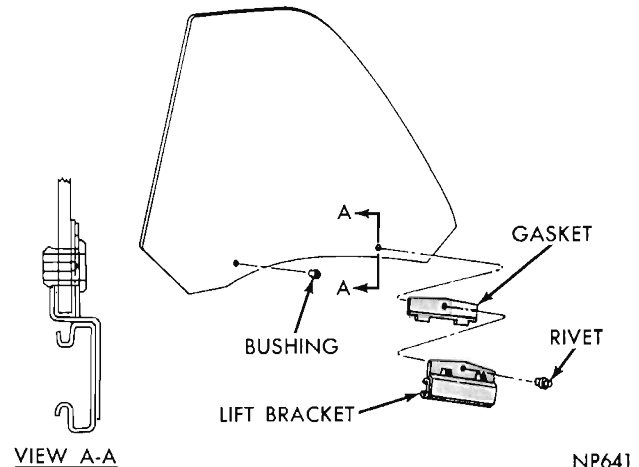

Fig. 38—Quarter Glass Assembly—Sedan
- (1) If glass is to be replaced, remove lift bracket (Fig. 38) and attach on new glass.
- (2) Roll regulator down until front regulator stud is accessible at front access opening.